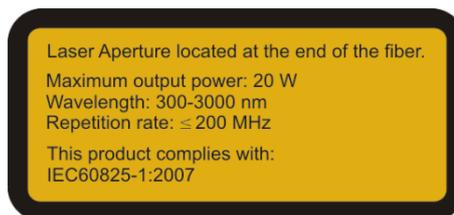

Figure 2-3: Laser Aperture label
- Laser Aperture label, see figure 2-3.